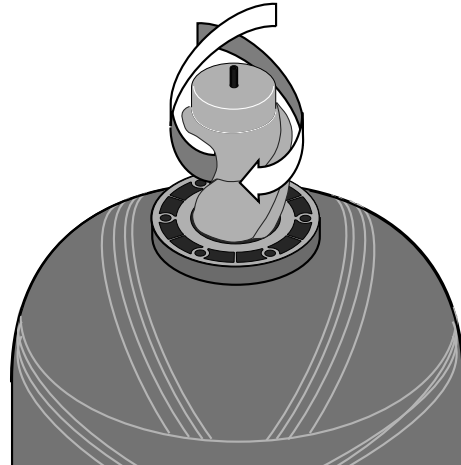

Figure 5: Turn and Push Air Cell Down Through Top Tank Port. Expel Any Remaining Air From Air Cell As You Go
8. Push and turn tightly rolled air cell into tank (see Figure 5).